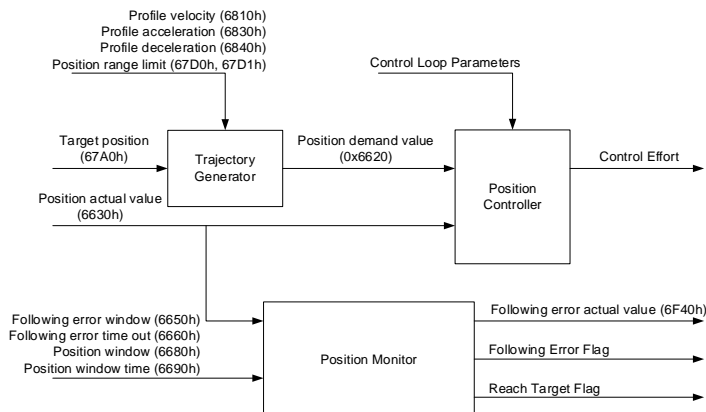

Figure 6: Profile Position Mode Block Diagram
Profile position (PP) mode accepts the user’s target position command and profile parameters. The trajectory generator automatically generates a position curve according to the profile parameters. The profile velocity, profile acceleration, and profile deceleration can be changed before a new set point is updated. Figure 6 shows the overall structure for this mode.